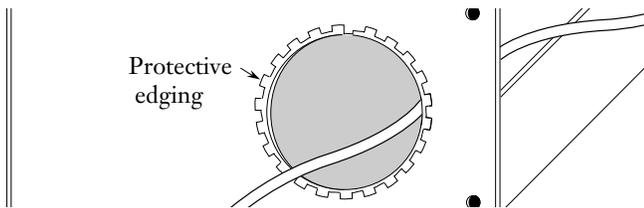

Figure 22
- Make sure that any protective grommets and/or edging provided with the termination hardware is properly installed before routing the cable (Figure 22).